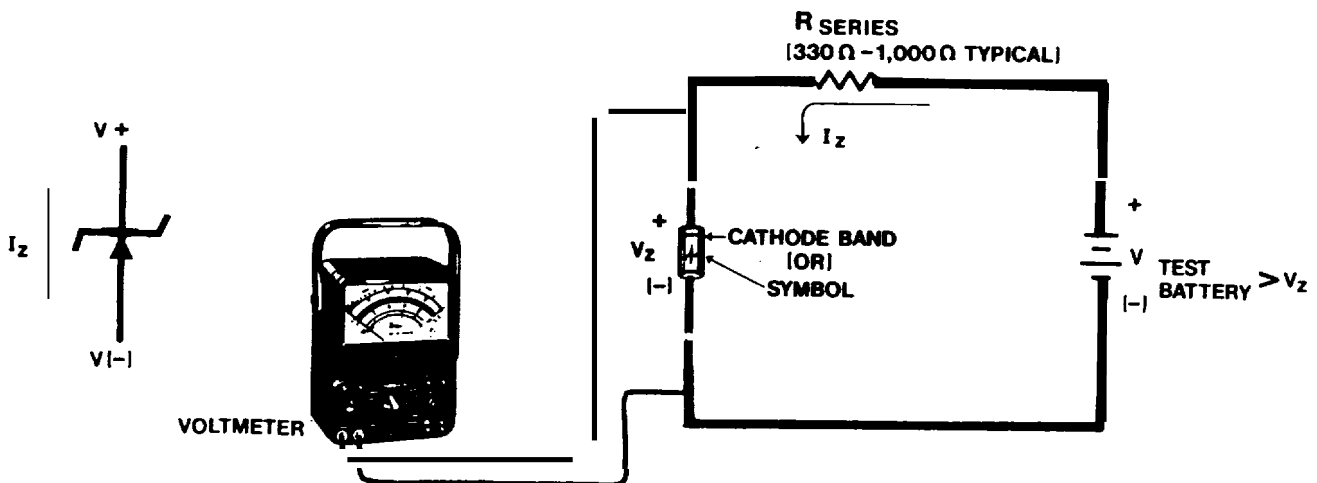

Figure 7-4 Testing Zener Voltage.
ode, but especially Zener diodes, should be operated with some means of external series resistance in order to limit the maximum current flow to within the rating of the device. The Zener diode can be manufactured to produce reverse breakdown (Zener) voltages from 0.5-100.0 volts or more with power ratings from 0.25W—100W. The Zener diode is treated like the general purpose rectifier diode; however, its Zener voltage (V) cannot be determined using the ohmmeter tests. An external test voltage must be applied to determine V (fig 7-4).